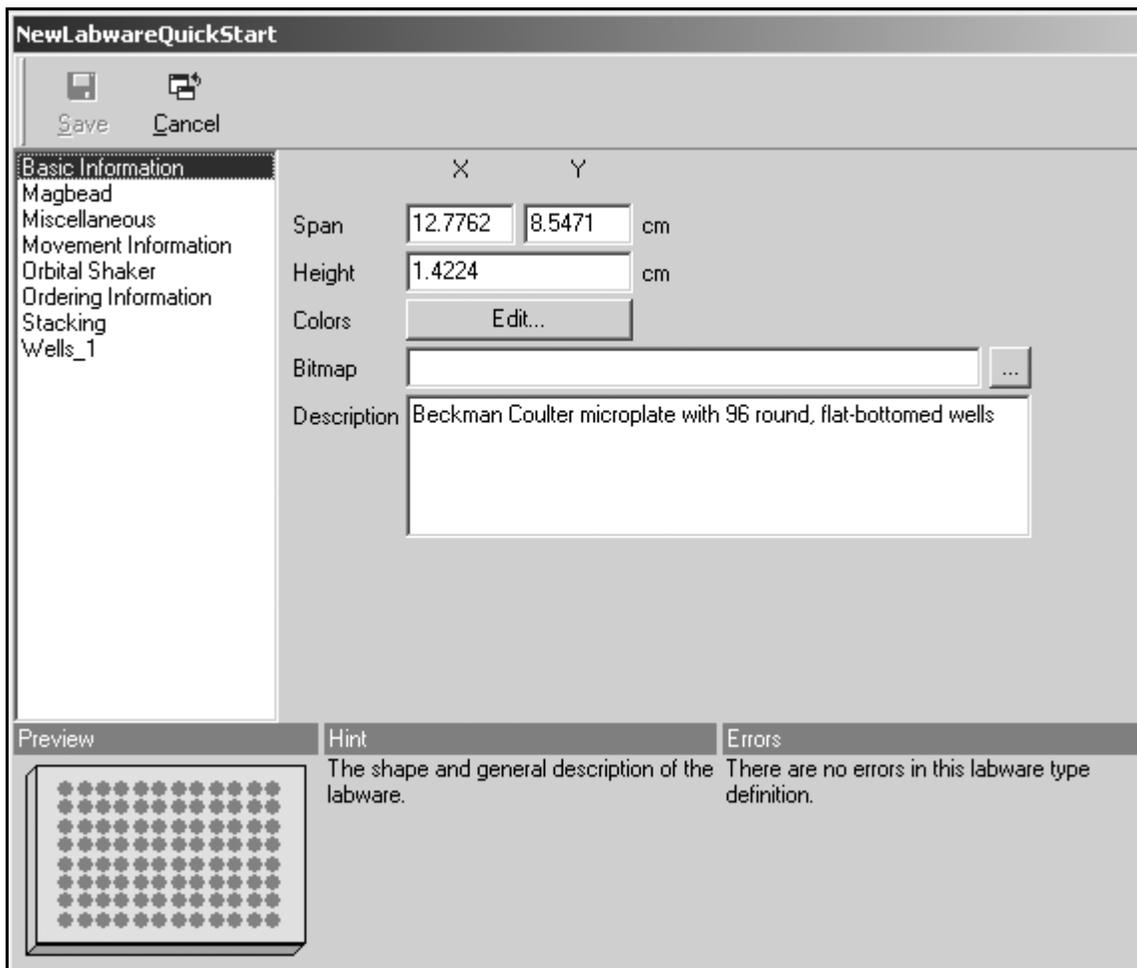

Figure 3-5. NewLabwareQuickStart
4. Double-click the NewLabwareQuickStart graphic. NewLabwareQuickStart appears (Figure 3-5).
Note: Each piece of labware in Labware Types has its own mini-editor similar to Figure 3-5 to allow specifications to be revised and saved.